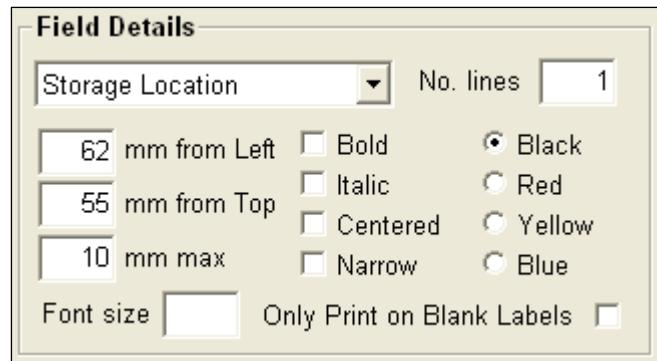

Figure 187
6. After selecting 'Storage Location' you will need to enter in the following information (see Figure 187):